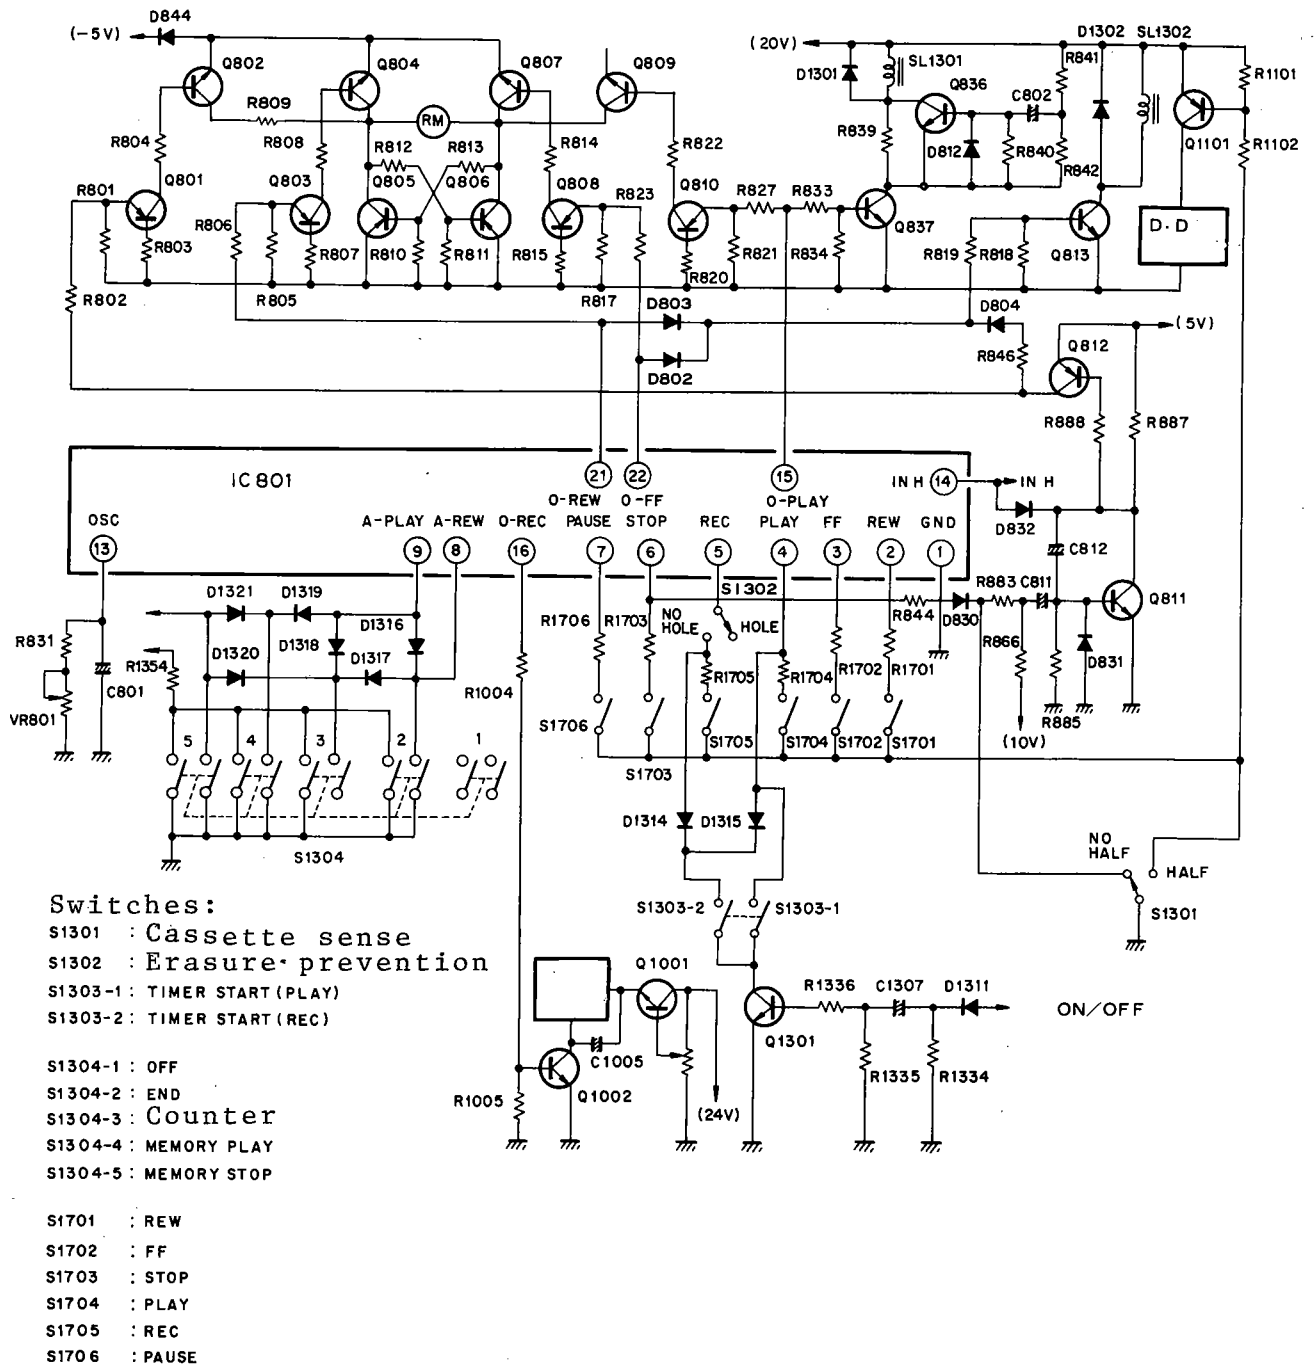

Fig. 5-2 Control Circuit
2. Q1607 and Q1608 are turned on by the output of the IC1602 NAND gate muting circuit, while Q1301 is turned on by a current passed via D1311, C1307, R1366 and Q1301 (see Fig. 5-2).